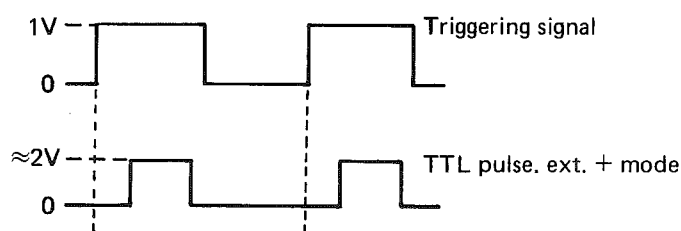

Fig 9.1. External triggering. EXT + mode
4. Check that oscilloscope displays waveform similar to figure 9.1.